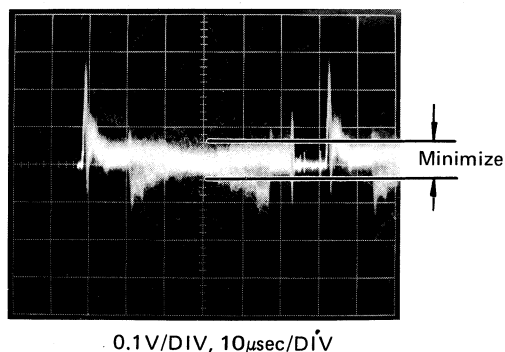

Fig. 4-2-45
- Confirm that the centre portion of B-YL signal is minimum. If not adjust R/B GAIN VR4 on process board to minimize. (Fig. 4-2-45)